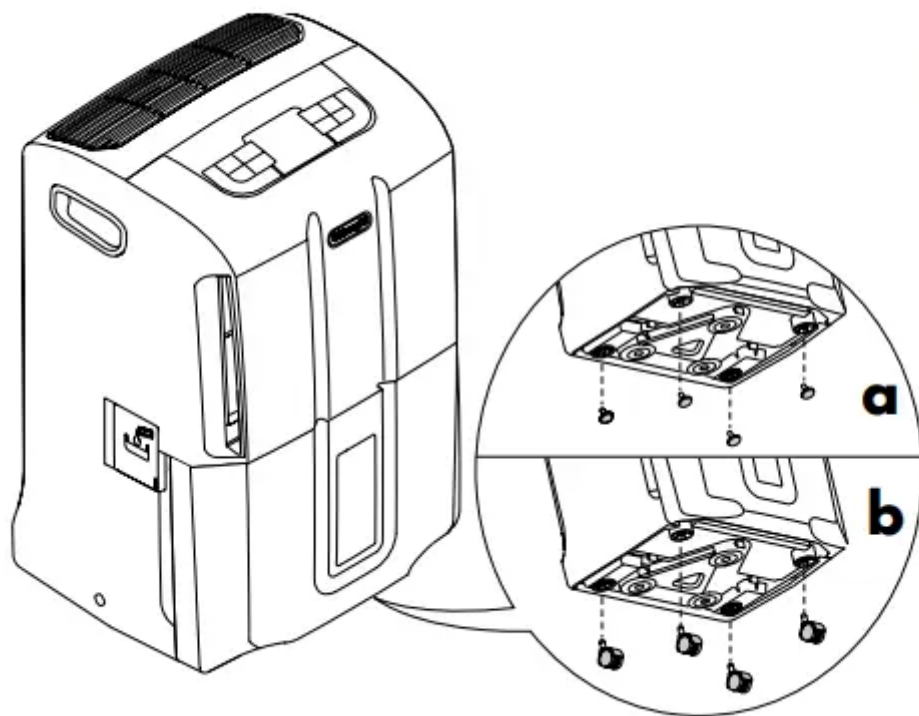

Fig. 1
2. Remove the rubber caps from the base of the appliance by pulling them out hard, using pliers if necessary (see figure 1/a).
3. Apply the castors by inserting their pins into the holes (see figure 1/b).